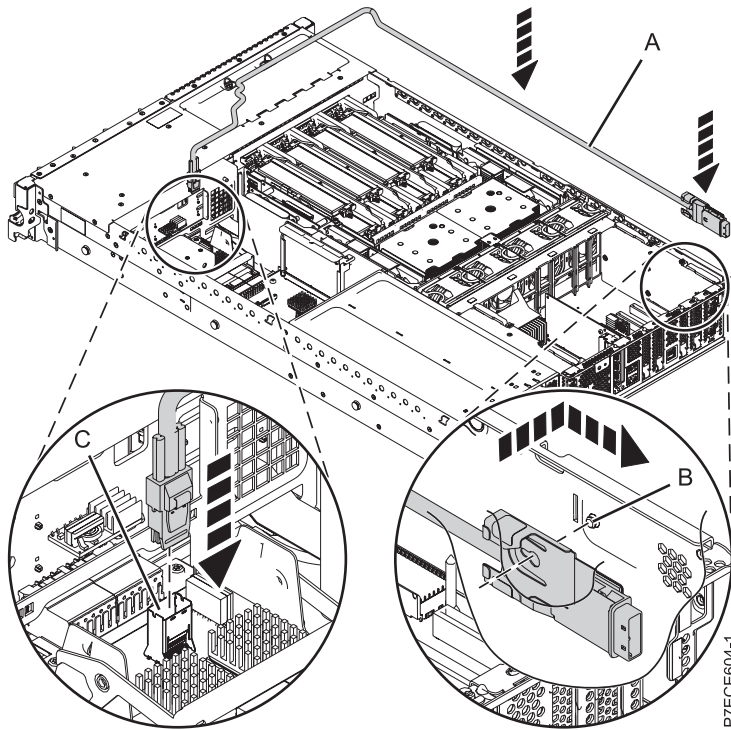

Figure 28. Installing the SAS cable
10. Connect the mini-SAS connector of the SAS cable to the internal SAS connection port (C) on the storage interposer until it snaps in place. See Figure 28 on page 50.
11. Route the cable (A) in front of the memory riser cage, and along the channel in the side wall until the SAS port connector is near the opening on the rear of the chassis.
12. Align and guide the slot in the bracket of the SAS port connector (B) over the guide pin in the chassis. Then slide the SAS port connector into the opening on the rear of the chassis until the tab on the bracket snaps in place.